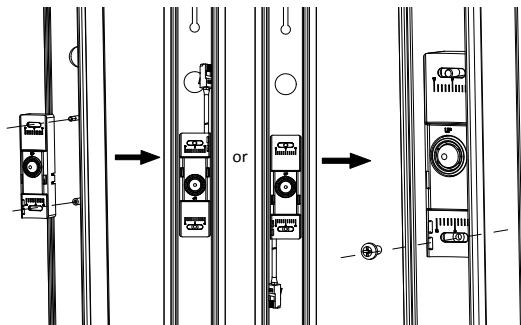

Figure 2-14 Install and Secure Lens Bracket
5. Route cable and fit the lens bracket into the base. Use a screw to secure the lens bracket. See Figure 2-14.